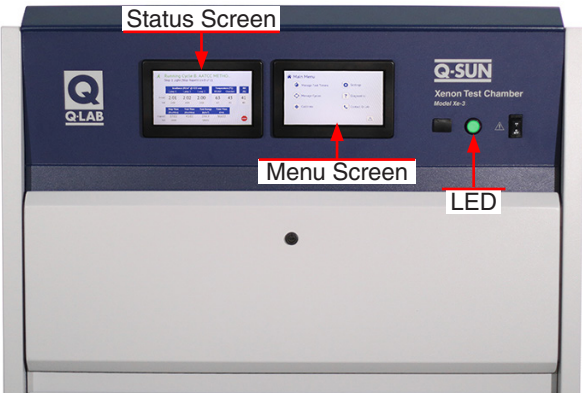

Figure 10.1a: Touch-screens and LED location.
- Two touch-screen monitors mounted on the Q-SUN control panel are used to control tester operation and the display of test status (Figure 10.1a).